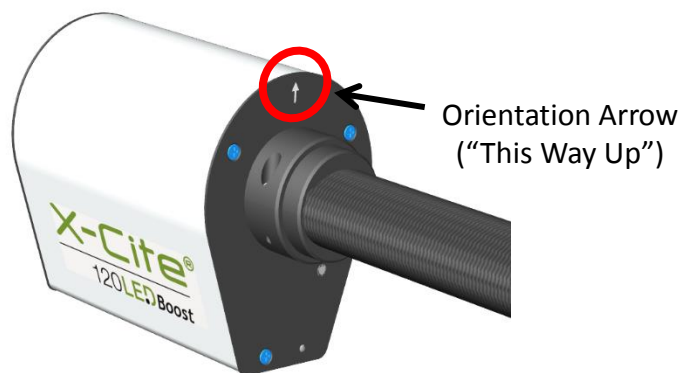

Figure 5 LED Head and Arrow in Correct Position
- iv. Olympus - Tighten the hex fastener(s) with the 3mm Hex Tool. Depending on the model, there may be one (1) fastener on the side, or two (2) fasteners located at the 10:00 and 2:00 positions. **Note for IX3-RFAL use: the epi-light train aperture MUST be properly aligned before turning on X-Cite® 120LEDBoost, or heat damage may result** - see procedure in Olympus manual for assistance.
- b. Verify that LED Head is oriented with air vents facing downwards and the arrow label is pointing up (see Figure 5). Adjust position if necessary – operating X-Cite® 120LEDBoost with the LED Head at an angle will affect performance and may cause damage long term.